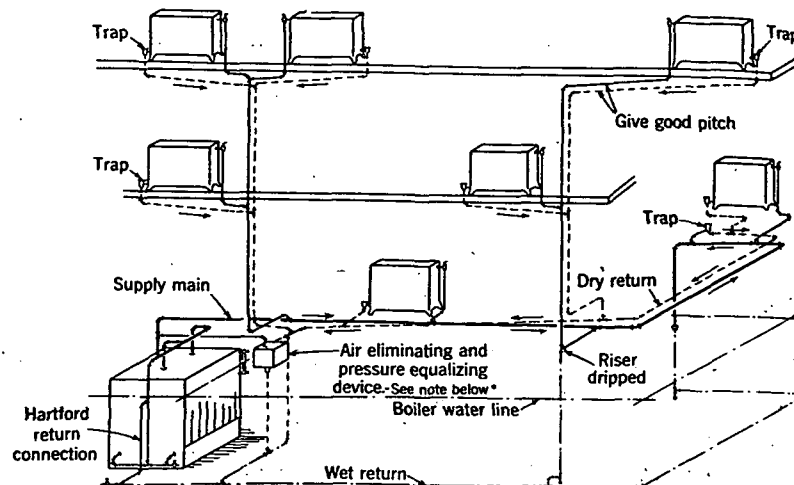

FIG. 10. TYPICAL UP-FEED VAPOR SYSTEM WITH AUTOMATIC RETURN TRAP^a
These systems may be classified as (1) *closed systems*, consisting of those which have a device to prevent the return of air after it has once been expelled from the system, and which can operate at both super and sub-atmospheric pressures for a period of four to eight hours depending upon the tightness of the system and rate of firing, and (2) *open systems*, comprising those which have the return line constantly open to the atmosphere without a check or other means to prevent the return of air. The open systems are not so popular because they have the disadvantage of not holding heat when the rate of steam generation is diminishing. The two-pipe vapor system is shown in Fig. 10. Systems of this design should preferably be equipped with an automatic return trap to prevent water from backing out of the boiler and when so equipped have sometimes been known as *return heating systems*. In installing the return trap a check valve is inserted in the return main at a point near the boiler and a